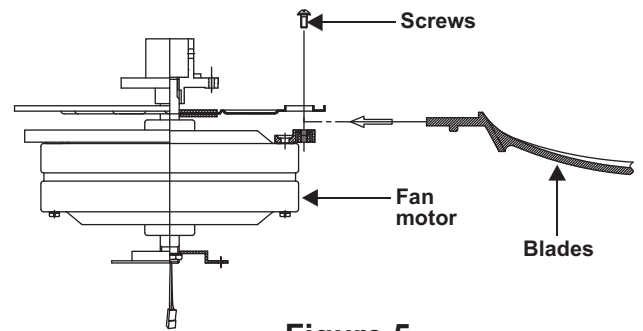

Figure 5
1. Fasten the blade assembly to the fan motor using the screws supplied. Repeat process with another blade. Tighten each screw and make sure the blade is straight. (Fig. 5 )